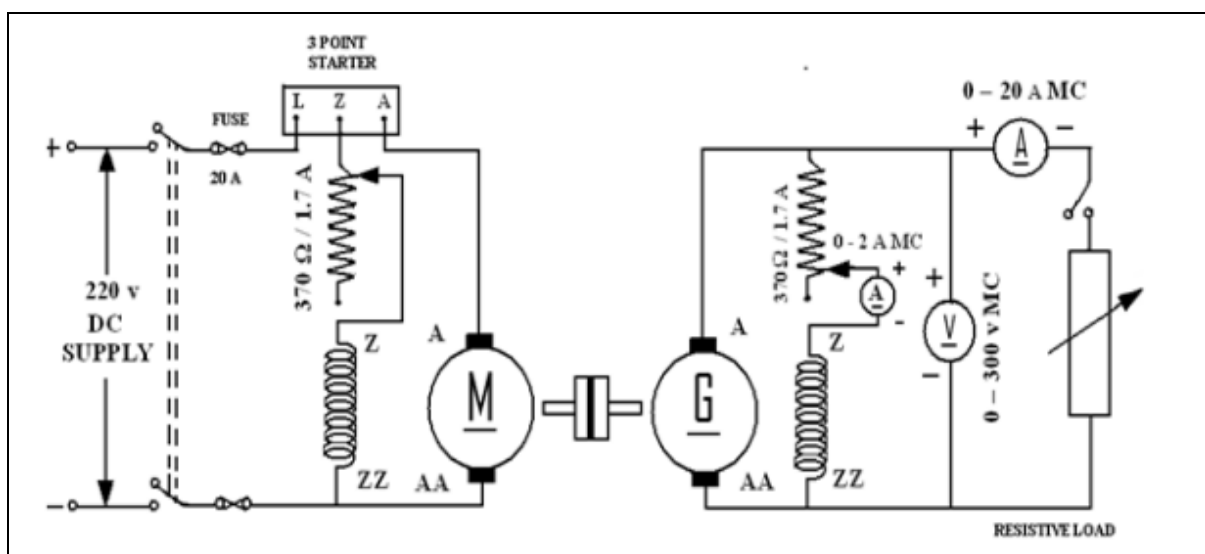

Figure 2 – Load Test on D.C Shunt Generator
1. Calculate the different armature currents (i.e. I_a equal I_L plus I_f) for shunt generator under various loads in Figure 2.